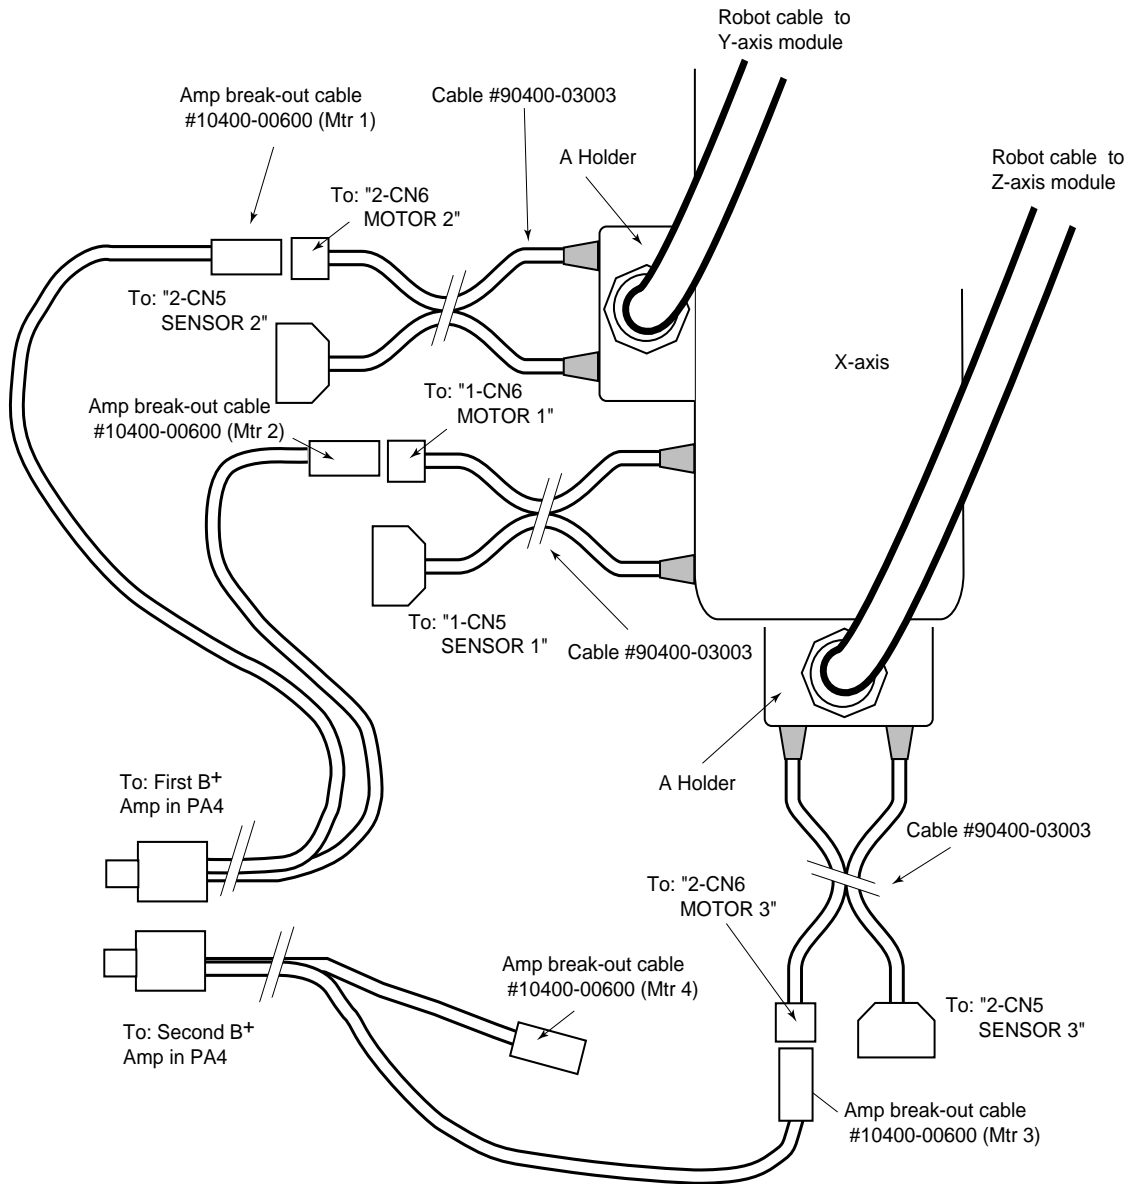

Figure 5-14. Connecting to an Adept MV Controller
- a. Connect the two barrel ends of the cable to the X-axis module as shown in Figure 5-14. These connectors have different pin sizes and cannot be installed incorrectly.
- b. Attach the A holder end of the robot cable to the side of the X-axis as shown in Figure 5-14 (refer to Section 4.3 for holder mounting).
- c. Connect the two barrel ends of the cable to the A holder as shown in Figure 5-14. These connectors have different pin sizes and cannot be installed incorrectly.
- b. Attach the A holder end of the robot cable to the end of the X-axis as shown in Figure 5-14 (refer to Section 4.3 for holder mounting).
- c. Connect the two barrel ends of the cable to the A holder as shown in Figure 5-14. These connectors have different pins sizes and cannot be installed incorrectly.